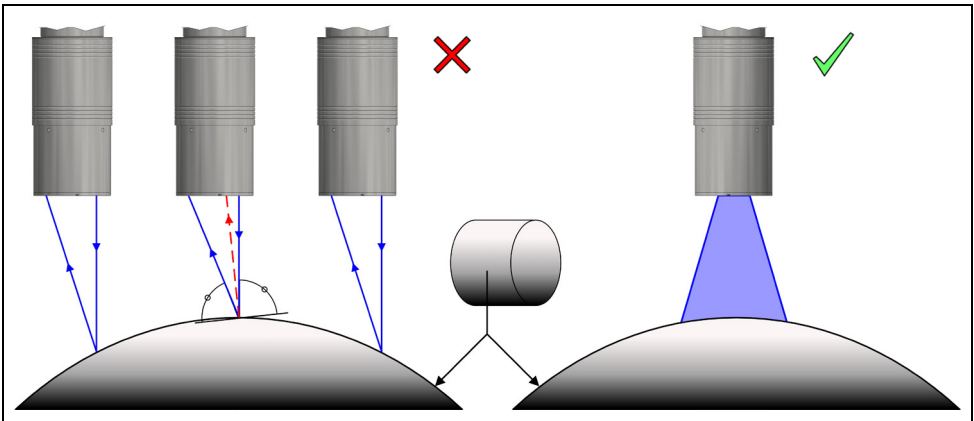

Fig. 14 Direct reflections
- To avoid direct reflections, align the sensor according to Fig. 14 .